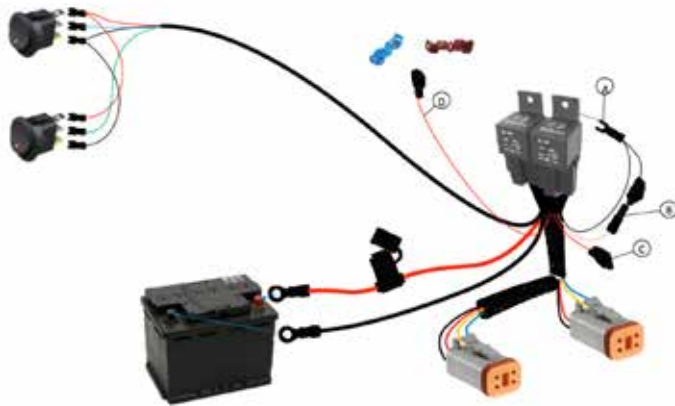

Figure 1: Dual Switch Harness Installation
4. Secure thin black wire fitted with tongue terminal (A) (see fig. 1) to body frame obtaining a good earth (can use same screws used to secure the relays). Ensure orange / black wire is connected (B) for positive switching. See note 1 for negative switching.